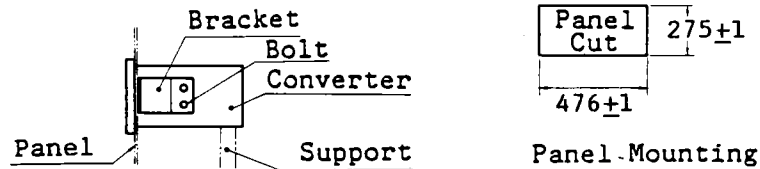

Figure 5.6 Mounting the Converter
(2) Panel mounting.
- a. Remove the side brackets and insert the converter into the panel cutout---see Figure 5.6.